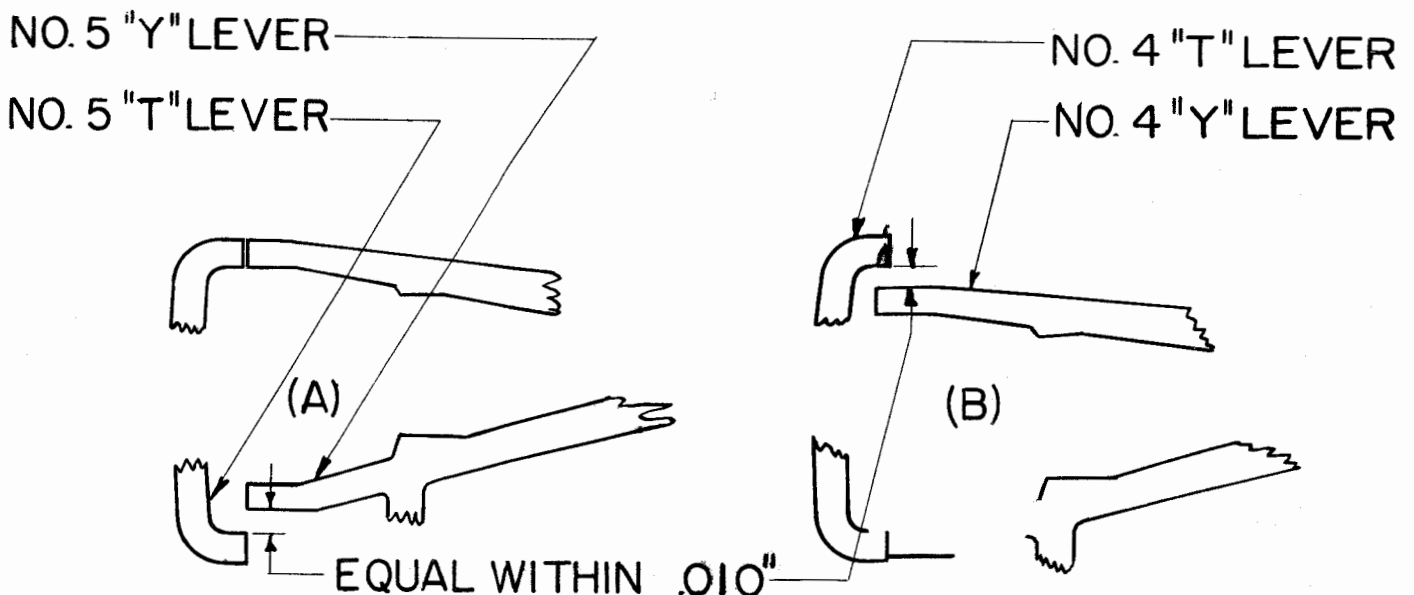

Figure 63
- (a) With the R code combination set up on the Y transfer levers and the transfer-bail-extension roller on the high part of its cam, there shall be a clearance, as indicated in Figure 63, between the T-levers and the Y-levers when measured between the top prongs of the No. 4 (second) set of levers and the bottom prongs of the No. 5 (front) set of levers.